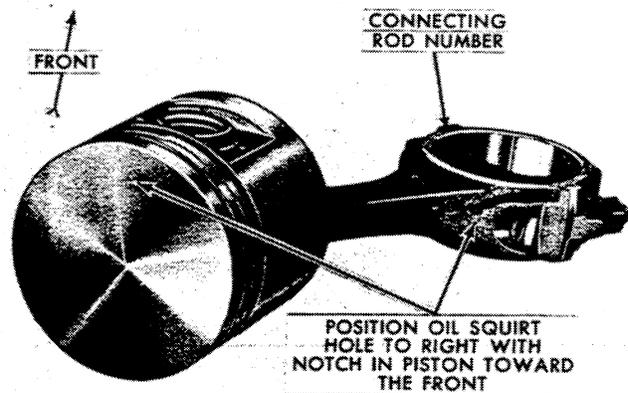
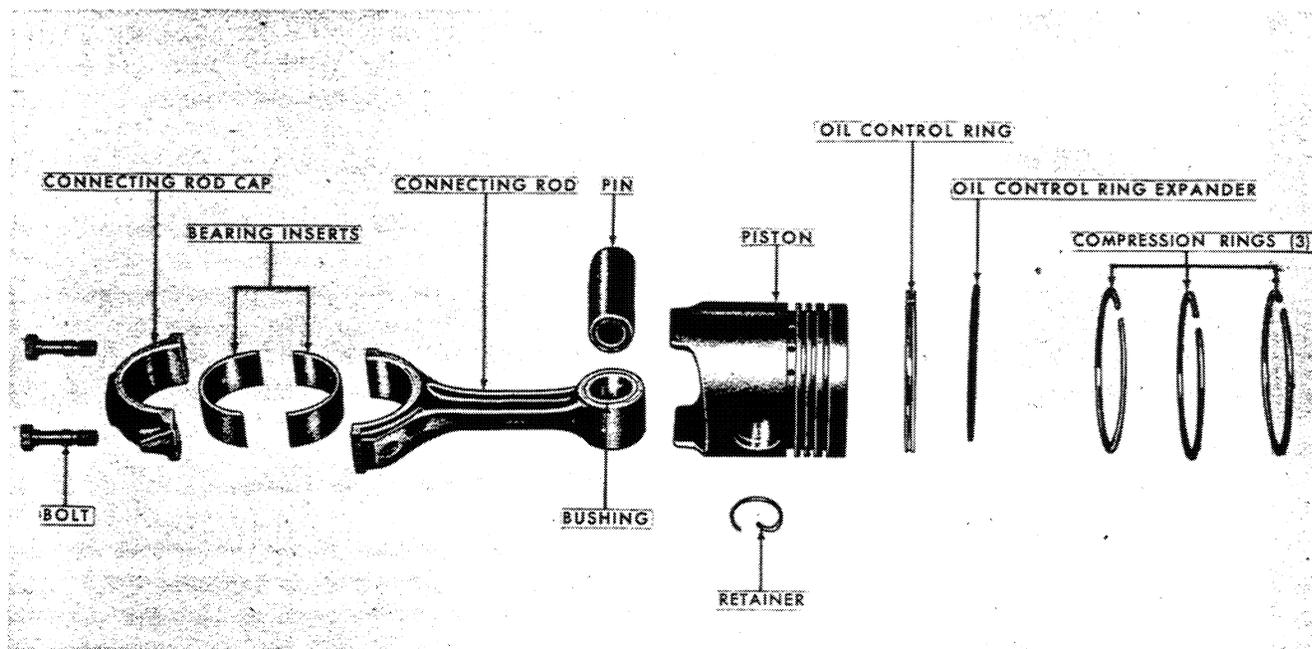

Figure 32
Figure 33
2. Position a piston on its respective connecting rod as shown in Figure 32 and install the piston pin. Install two new piston pin retainers, Figure 33.